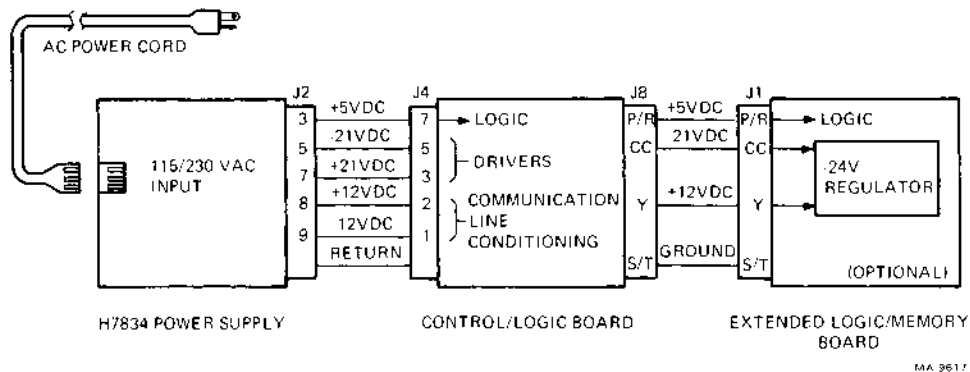

Figure 5-20 DECwriter IV Power Distribution
5.4.6.1 Power Distribution – Power is distributed through the terminal as shown in Figure 5-20. Line voltage (115/230 Vac) enters the supply through a detachable power cord. The supply transforms line voltage into five direct current voltages: +5, +12, –12, +21, and –21 Vdc. The dc power exits the supply at connector J2, is conducted across an 8-wire cable, and enters the control/logic board via J4.